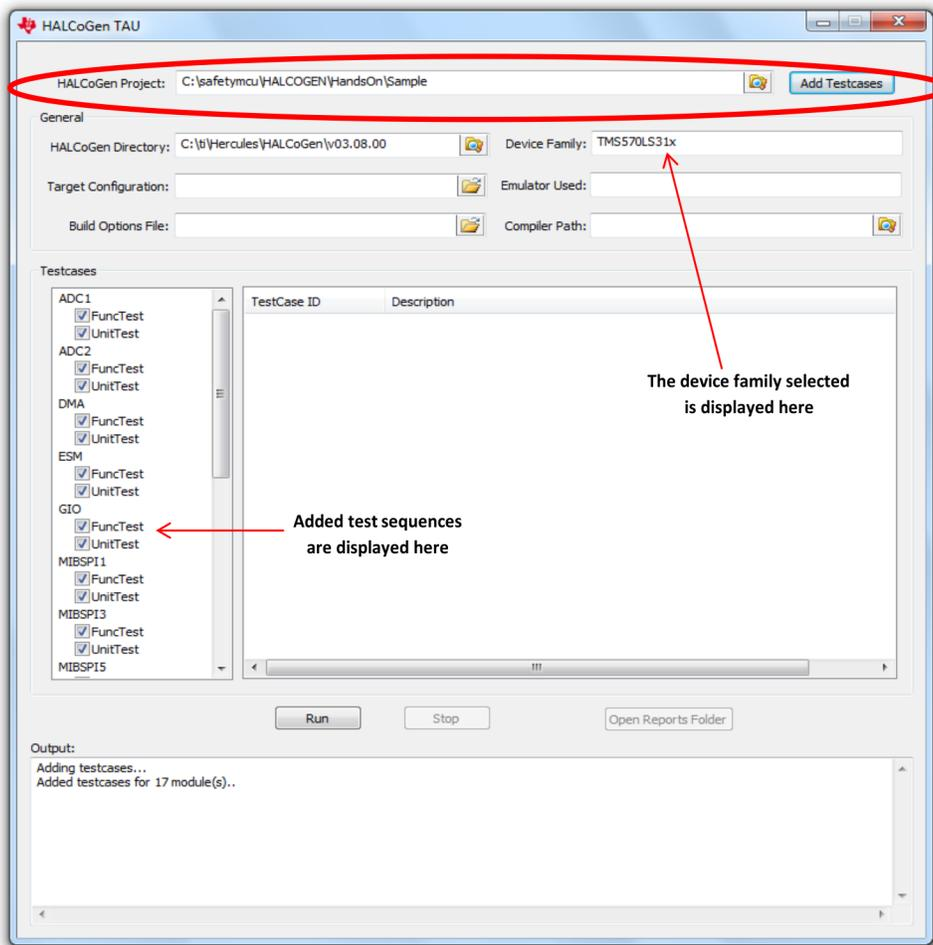

Figure 7. HALCoGen Project Selection and Add Test Case
4. Browse the folder containing the HALCoGen project and click the *Add Testcases* button (see Figure 7).